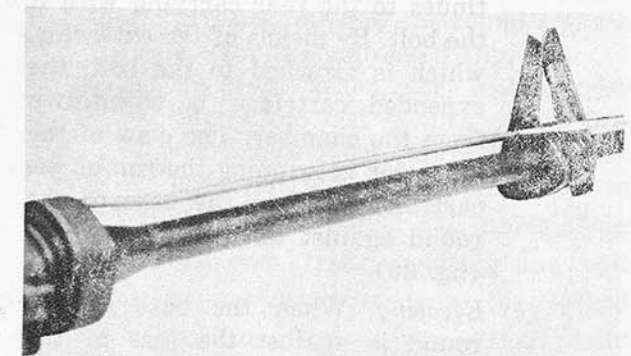

Figure 28. Gas tube.
- (b) *Action of the gas.* When the hammer strikes the firing pin and the primer ignites the powder, the projectile is forced down the barrel. At the same time the gas moves down the barrel until, passing the gas port located on the upper surface of the barrel, under the front sight, a small portion of the gas passes through the gas port and into the gas tube (fig. 28). The gas tube directs the gas into the cylinder between the bolt and bolt carrier, causing the bolt carrier to move rearward.